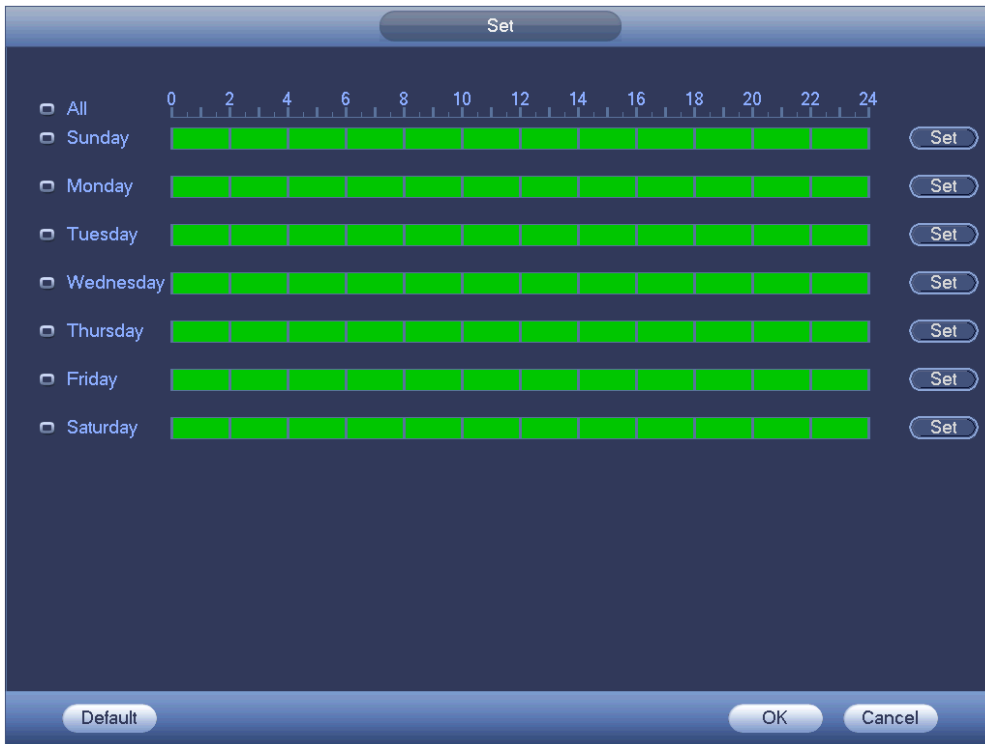

Figure 4-218
Step 4 Click the Set button after the period, you can set valid period to use current account. See Figure 4-218.